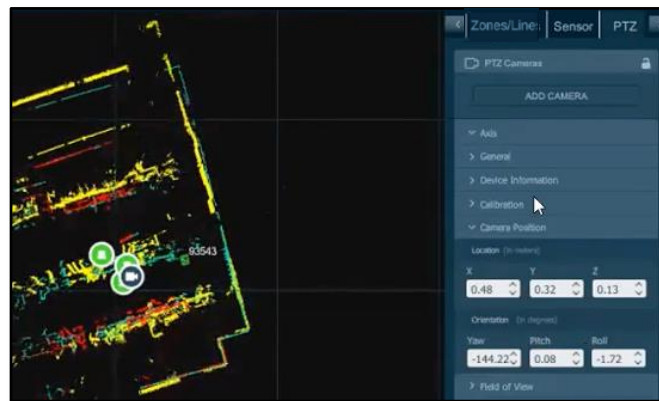

Figure 76. PTZ Camera Calibration: Verify Camera Position
8. View the PTZ calibrated values. Expand the **Camera Position** tab. See Figure 76. PTZ Camera Calibration: Verify Camera Position.